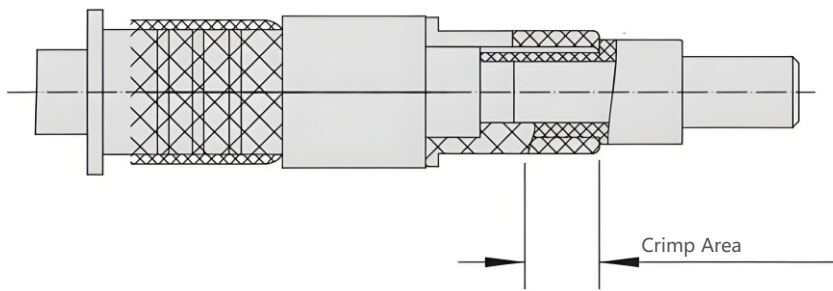

Figure3.12
- ⑦ As shown in Figure 3.12, use tool M22520/5-01 to crimp the intermediate pin contact, and use die Y631B to crimp the intermediate contact onto the white wire.